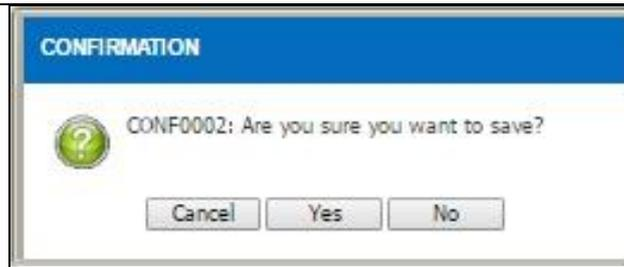

Figure 4.1.5-8 Alert Message
- Alert message will be displayed after the transaction is saved as per Figure 4.1.5-8
- Click on the button to confirm the saved transaction and the item information will be displayed as Figure 4.1.5-9